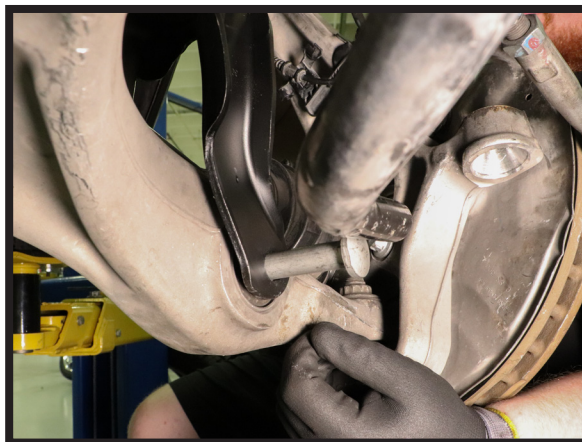

FIGURE 17
14. REMOVE BOTTOM STRUT MOUNT BOLT. (FIGURE 17)